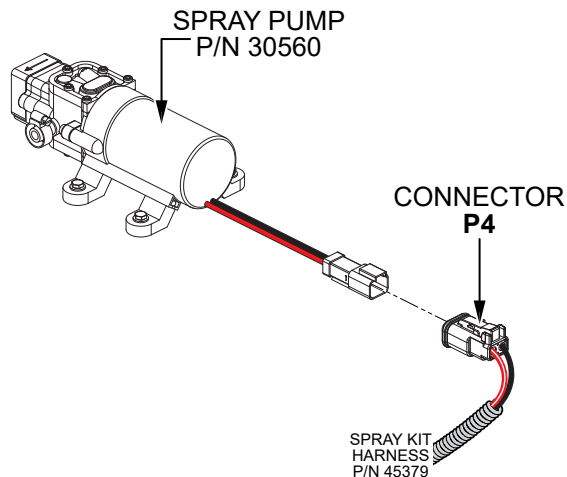

Figure 15. Connect Spray Pump
- Plug connector P4 from the spray kit wiring harness (P/N 45379) into the spray pump (P/N 30560). See Figure 15.